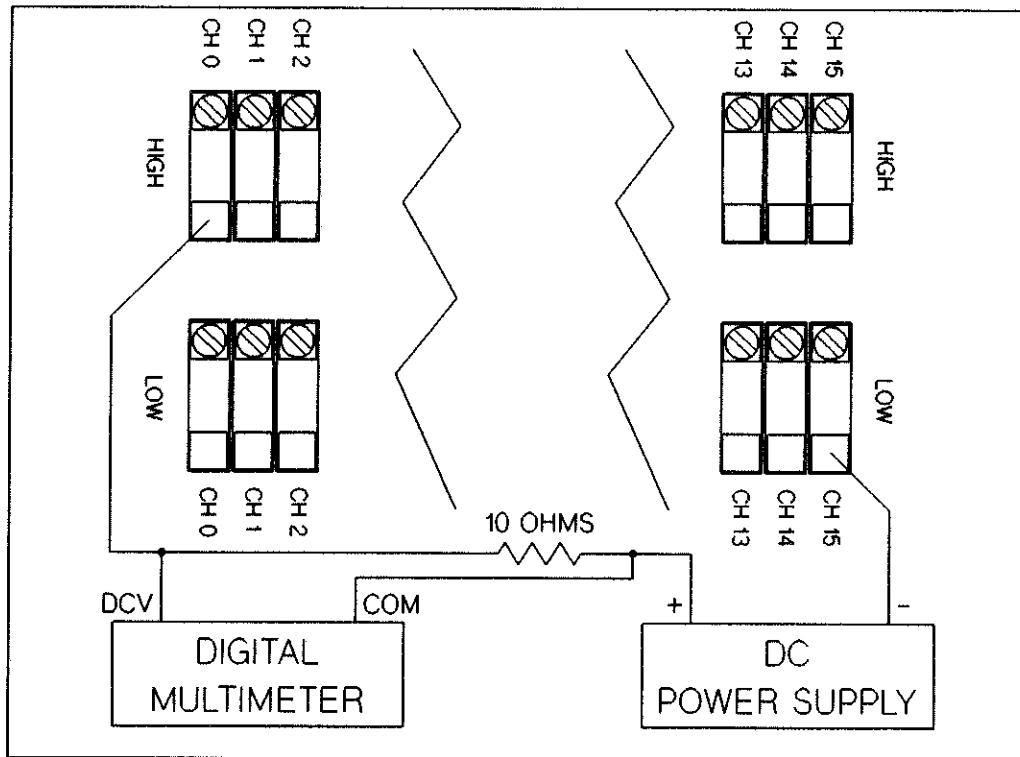

Figure 13-7 Even Channel Sink Current Test Set-Up
4. Set the power supply to output approximately +5 V dc. Connect the 10 ohm resistor (**R**) between the power supply + output and the even channel HIGH connections on the test fixture. Connect the power supply's - output to the shorted LOW connections on the test fixture. The connections are shown in Figure 13-7.
5. Set the multimeter to measure dc volts. Connect the DCV (HI) input of the multimeter to the shorted even channel HIGH connections on the test fixture. Connect the multimeter COM (LO) input to the + output on the power supply. The connections are shown in Figure 13-7.